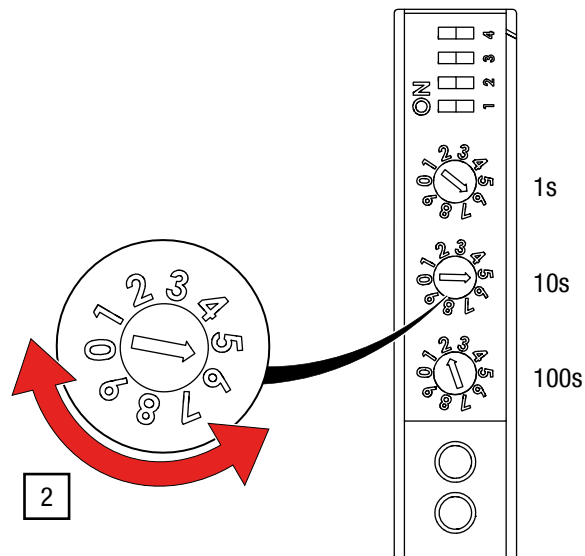

Fig. 39: Rotary switches for setting the DMX address on the G-FRAME 54 control unit
2. Turn the rotary switches for the DMX channels (ones, tens, and hundreds digits) to the required value using a screwdriver (see Fig. 39).
In the example shown in Fig. 39, the DMX address is set to 256.